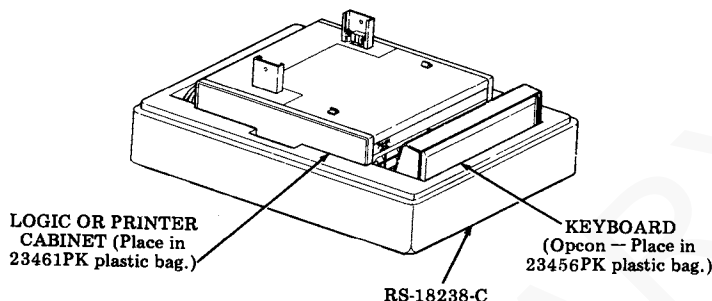

Fig. 10
- Step 1. Position logic or printer cabinet in position shown in Fig. 10.